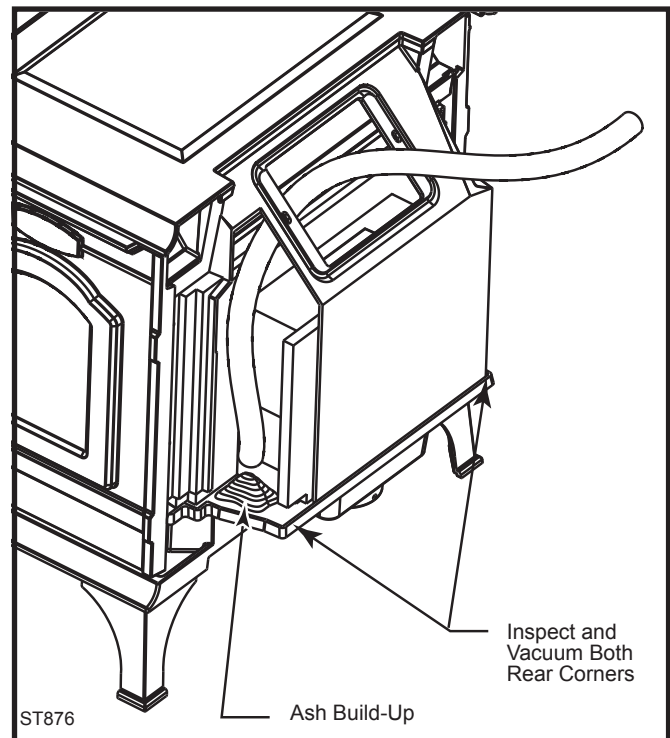

Fig. 34 Inspect and clean out ash accumulation on either side of the non-catalytic combustion system.
- Inspect for and remove ash build-up behind the combustion package. This should be done in conjunction with annual cleaning of the chimney connector since this inspection is most conveniently done through the flue collar opening. Inspect the passages to either side of the combustion package (a mirror will be helpful) and vacuum away ash using a flexible vacuum hose inserted into each passage. Care should be taken not to damage the white fibrous material in this rear chamber. (Fig. 34)